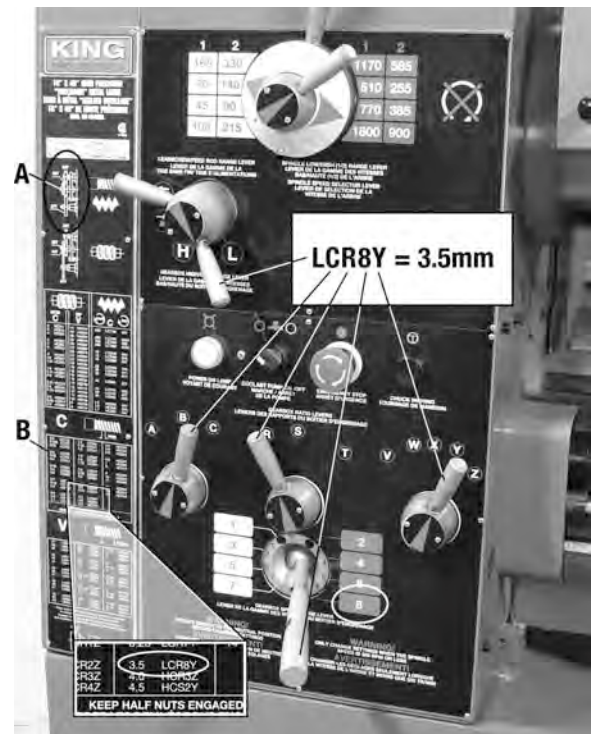

FIGURE 24
1. The 3 gearbox range levers (A, B & C) Fig.22 which have multiple lettered positions, when placed according to the threading chart and example shown in Fig.24, you can quickly change the feed rate.
2. The example in Fig.24 shows the lathe set up for 3.5mm metric thread.
3. For threading, make sure the change gears (A) Fig.23 are set as shown in the metric/imperial threading gear positions illustration (A) Fig.24.
4. In the metric thread chart (B) Fig.24, a combination of letters and numbers appear next to the 3.5mm (LCR8Y), position levers in the corresponding positions as shown in Fig.24.